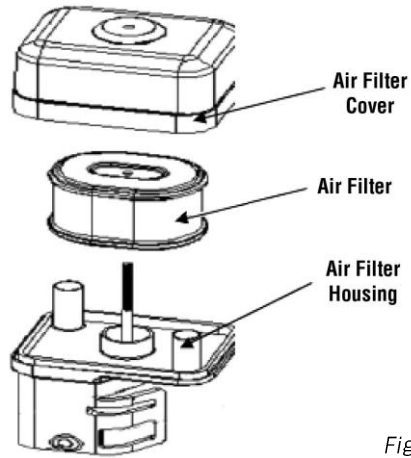

Fig. 17
1. Remove the air filter's outside cover (Fig. 17). Do not allow dirt and debris to fall into the air filter assembly.
2. Remove the air filter from the air filter housing (E).